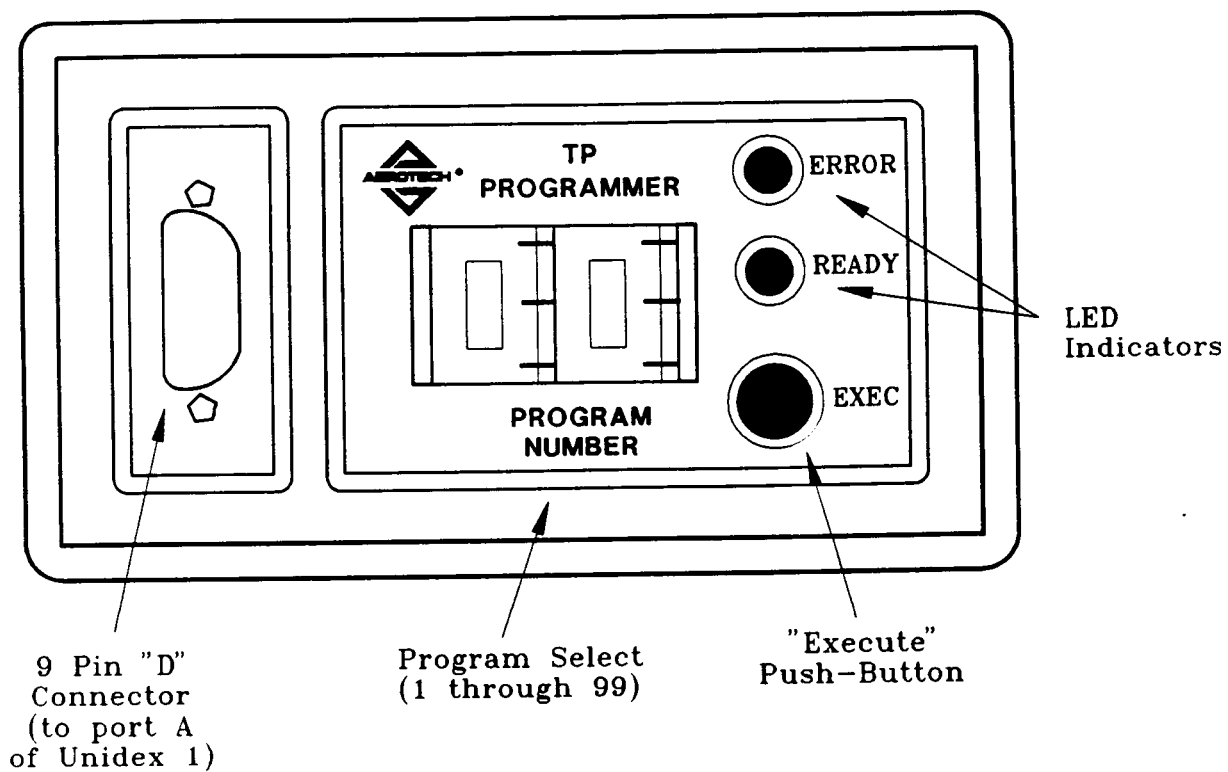

Figure 4-2: Thumbwheel (TP) Option
The Thumbwheel (TP) (figure 4-2) is supplied with a molded interconnect cable that is designed to plug directly into the communications interface connector port A of the Unidex 1 (see section 8-10). No additional interconnect wiring is required by the user. The thumbwheel (TP) derives its power directly from the Unidex 1.